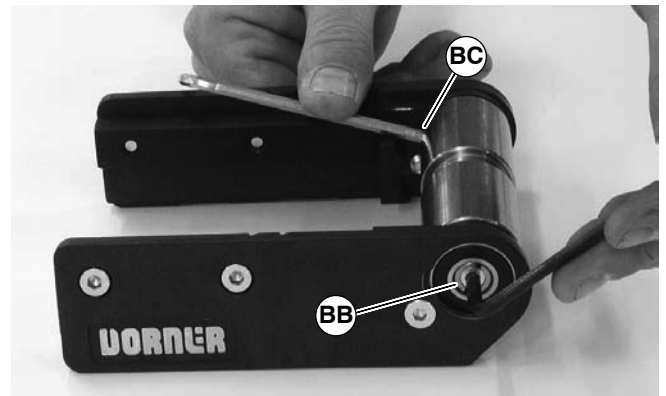

Figure 32
3. With 4mm hex-key wrench, loosen shaft bearing taper screw (BB of Figure 32). Steady pulley with second hex-key wrench (BC) inserted into pulley hole. Repeat procedure for opposite side of pulley.